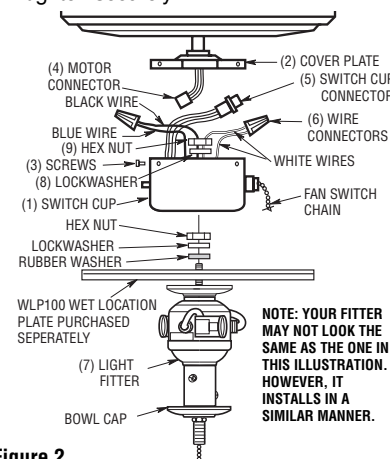

Figure 2
6. Insert the black and white wires from the light fitter(7) through the center hole in the switch cup (Figure 2) and thread the switch cup onto the light fitter. Hold wires taut while installing switch cup to prevent the wires from twisting.
through the center hole of the wet location plate, secure with lockwasher and nut (Figure 2).
8. Insert the black and white wires through the lockwasher(8) and hex nut(9) supplied. Firmly tighten the hex nut to secure the light kit fitter to the switch cup.
9. Connect the white neutral wire from the switch cup to the white neutral wire of the light fixture (Figure 2). Connect the blue line (hot) wire from the switch cup to the black line (hot) wire of the light fixture. Use listed wire connections (previously removed in step 5) to make connections (Figures 2 and 3). The neutral and line (hot) wires must be installed as instructed to maintain proper polarity at the lampholders.
10. Carefully tuck all wires and splices into the switch cup(1). (Figure 2.)
11. Connect the motor connector(4) to the switch cup connector(5).
12. Position the switch cup(1) and fitter assembly(7) on the cover plate(2) and install the three screws(3) that were previously removed in Step 2 and tighten securely.